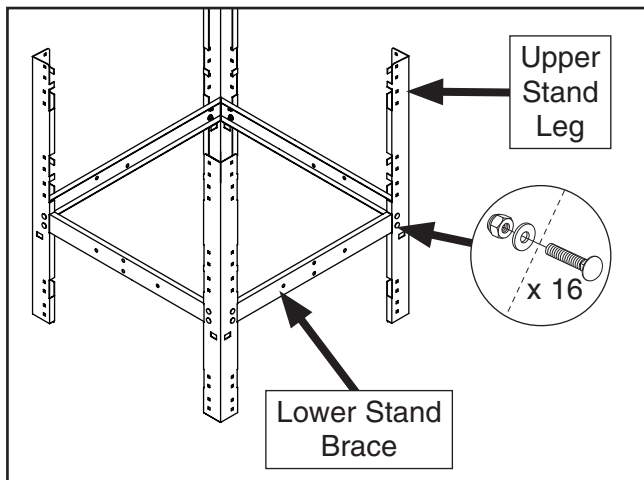

Figure 7. Upper stand legs connected to lower stand braces.
3. Connect upper stand legs with lower stand braces with (16) $\frac{5}{16}$ "-18 x $\frac{3}{4}$ " carriage bolts, $\frac{5}{16}$ " flat washers, and $\frac{5}{16}$ "-18 hex nuts (see **Figure 7**).
Note: Build frame using bolt holes indicated in **Figures 7–8** and **16**. Machine will not fit correctly on frame if wrong holes are used, and you will need to rebuild frame.